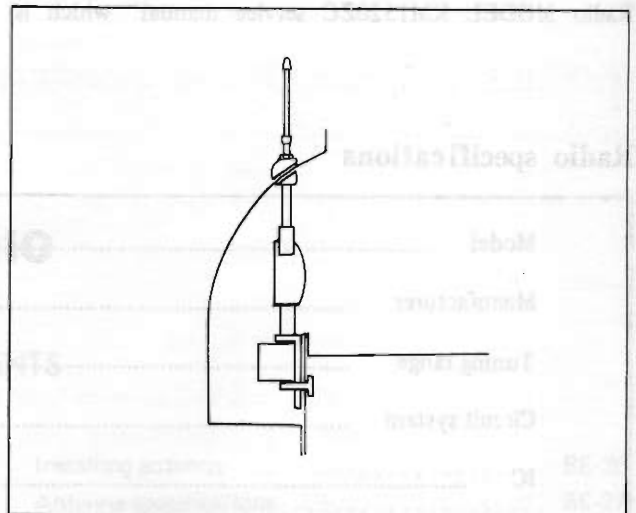

Fig. BE-39 Installing antenna
1. Apply voltage meter and connect cables as shown in Figure BE-39.